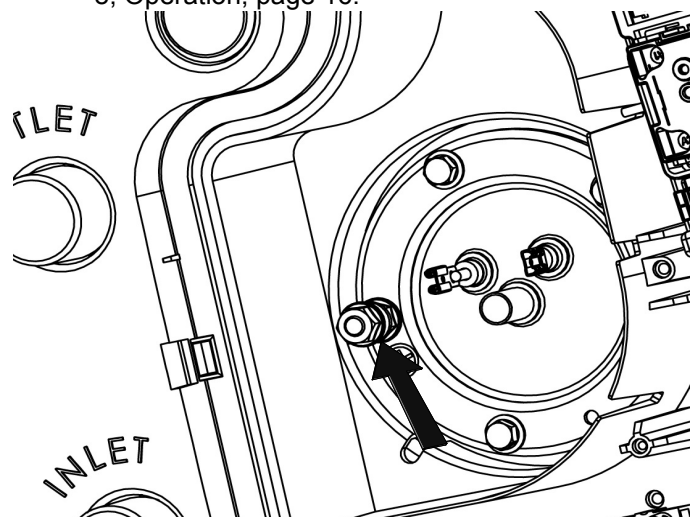

Figure 12: Cover removal
- ▶ Using an appropriate 'tested' ESD wrist strap with a crocodile clip at the opposite end of the lead to the wrist strap, connect the crocodile clip onto the earth point on the immersion heater (see Figure 12, page 26).